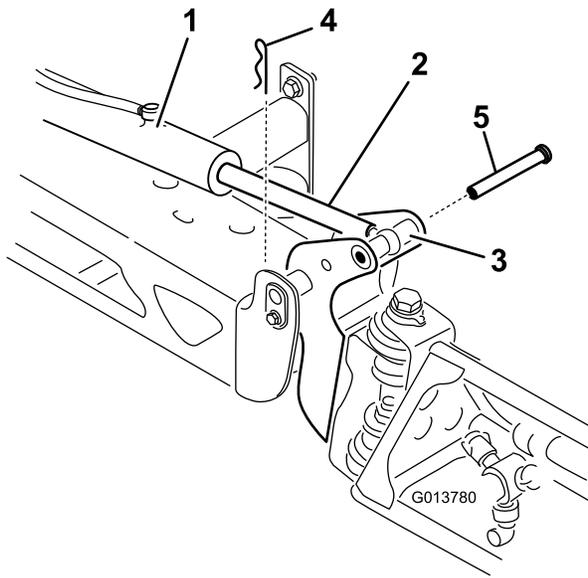

Figure 13
2. Remove the cotter pin from the pivot pin (Figure 13).
3. Lift up on the boom and remove the pin (Figure 13), and slowly lower the boom to the ground.
8. Raise the boom to align the pivot with the actuator rod. While holding the boom, insert the pin through both boom pivot and actuator rod (Figure 13).